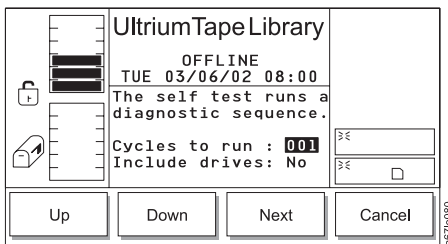

Figure 4-178. Self Test Dialog
4. Press the button below the **Self Test** softkey. The Self Test Dialog displays (see Figure 4-178).